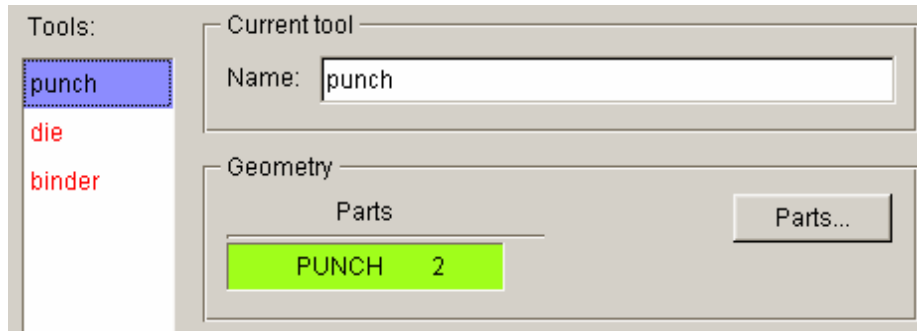

Figure 2.25 Punch definition interface
8. Click **Exit** button to return to tool definition interface. Now, you can observe the font color of **punch** is changed to BLACK. See Figure 2.25.